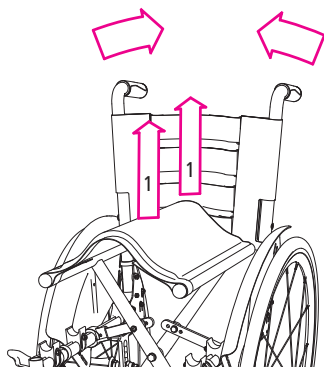

Fig. 5
2. Now pull upwards - front and rear - in the middle of the seat cushion (1, Fig 5). The wheelchair then folds up automatically.